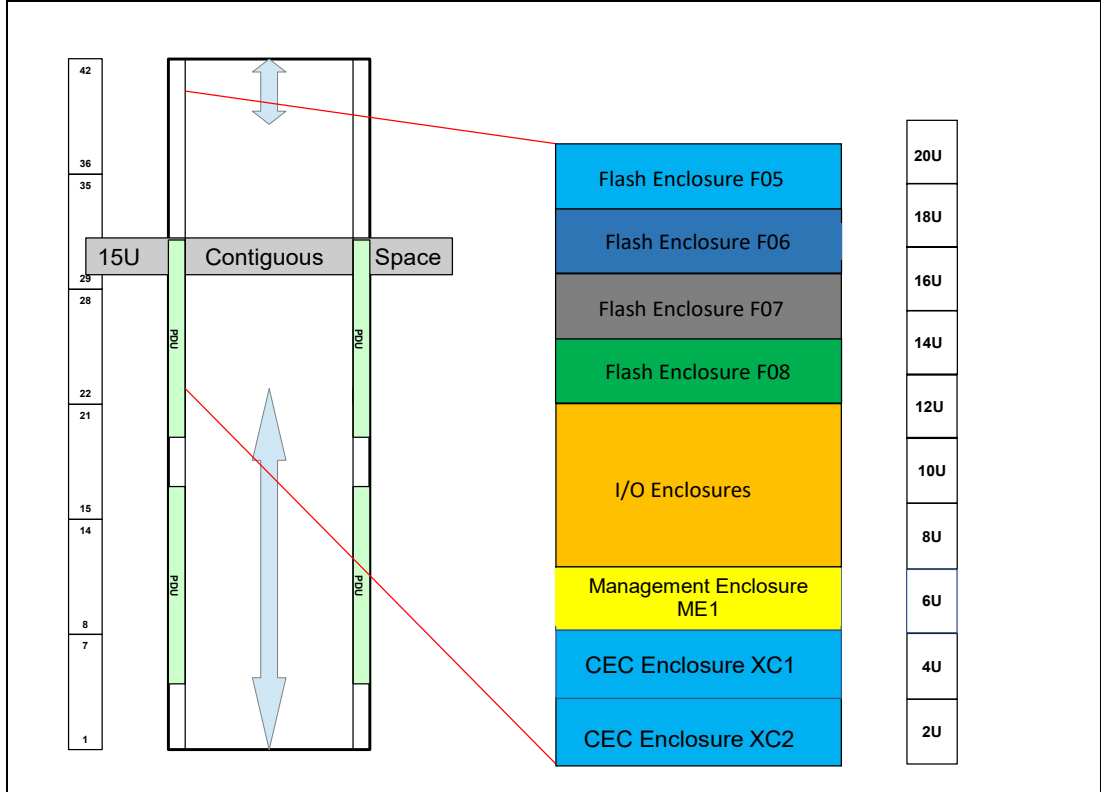

Figure 3-11 DS8910F in a standard 19-inch 19U space
- ▶ All eight DS8910F modules are integrated into 19U contiguous space of the intended rack in the specified order. This configuration is the maximum supported configuration with two pairs of HPFEs. The optional display Feature Code 1765 adds 1U to contiguous space. Figure 3-11 shows the maximum configuration when integrating DS8910F into the 19-inch wide standard rack.